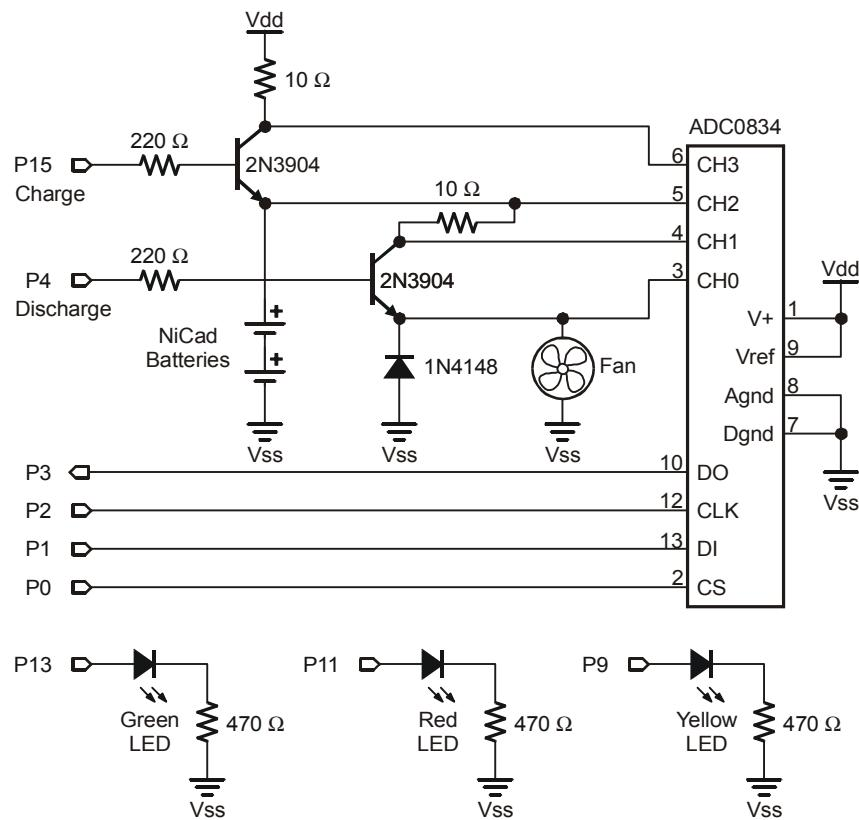
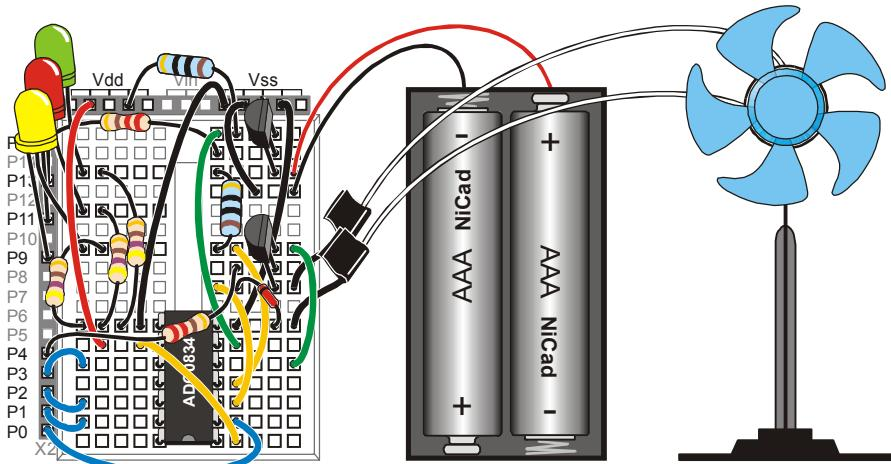

Figure 2-3: Programmable Battery Charger Schematic
Figure 2-4
- ✓ Build the circuit shown in the schematic (Figure 2-3) and wiring diagram (Figure 2-4) being very careful to place the parts in exactly the positions shown.
- ✓ Connect the DC fan motor to the battery charger circuit as shown in the schematic (Figure 2-3) and wiring diagram (Figure 2-4).
Now take a closer look at the battery charger schematic in Figure 2-3.